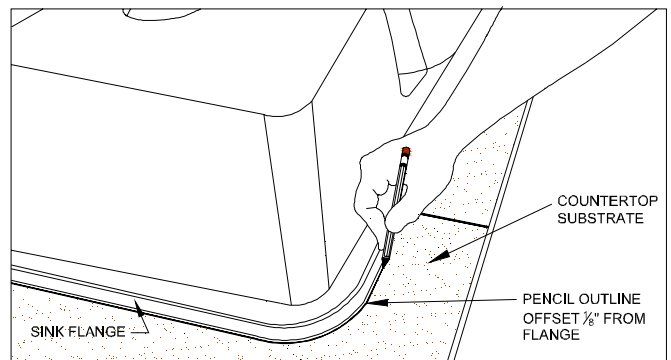

Figure 14B
- With a pencil, trace the sink perimeter leaving an  $\frac{1}{8}$ " gap between the pencil line and the rim of the sink. (FIG. 14B)